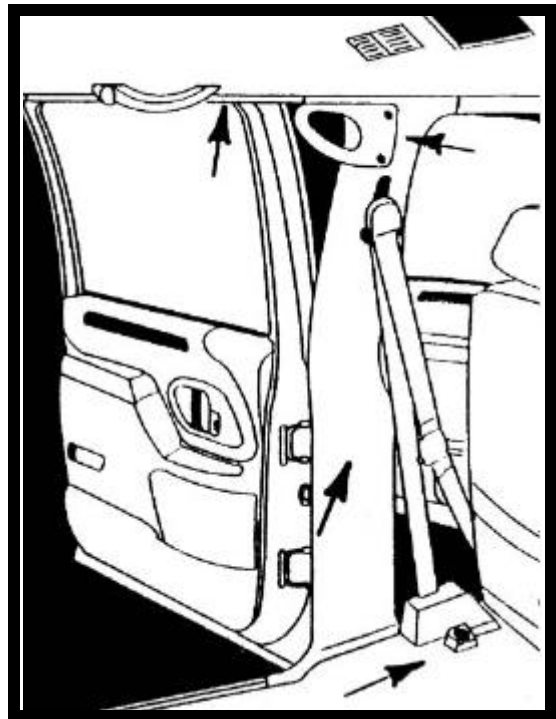

FIGURE 11
11. Unsnap the cover from upper and lower mounting bracket for seat belt. Remove and retain TORX head bolt and bracket. Carefully pull panel away from side of vehicle. Unsnap upper door trim from headliner and lay aside. See Figure 11.